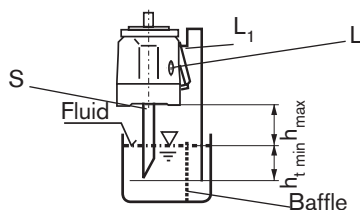

Fig. 2
b) If the min. fluid level is below the pump mounting face: pipe ports "L₁" and "S" acc. to fig. 2 "L" plugged. (see also limit of conditions)
Above the reservoir as in fig. 2. Before installation fill pump housing, keeping it in a horizontal position.